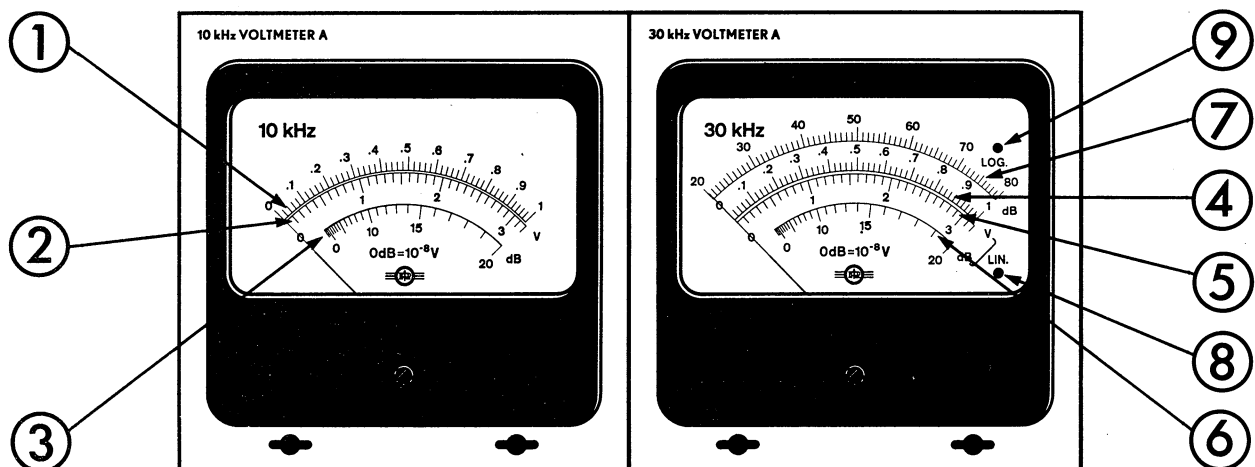

Fig.11. View of the meters of the Component Linearity Test Equipment, type CLT1.
covering a 22 dB range, and a logarithmic indication, covering a 60 dB range. These indications can be alternatively selected by means of the locking push-button METER INDICATION LIN.-LOG. The selected mode is indicated by one of two index-lamps (see Fig.11 (8) and (9)) located on the meter scale. The indication is linear when the push-button is released, logarithmic when it is pressed.
As illustrated in Fig.11, the Component Linearity Test Equipment, type CLT1, is provided with the following meters:
10. The dB value of the 3rd harmonic on the 30 kHz VOLTMETER A is read on (6) (see Fig.11) when the linear mode is selected, and on (7) when the logarithmic mode is selected.